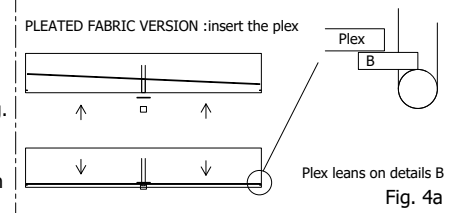

Fig. 4a
- PLEATED FABRIC VERSION : insert the plex (I) by turning the handle (M) and the washer (N) at the threaded pipe (O). the plexiglas doesn't lean on the external border, but it leans on details B.(Fig. 4+Fig. 4a).
- VERSION NO SELV :Screw the safety screw (K).